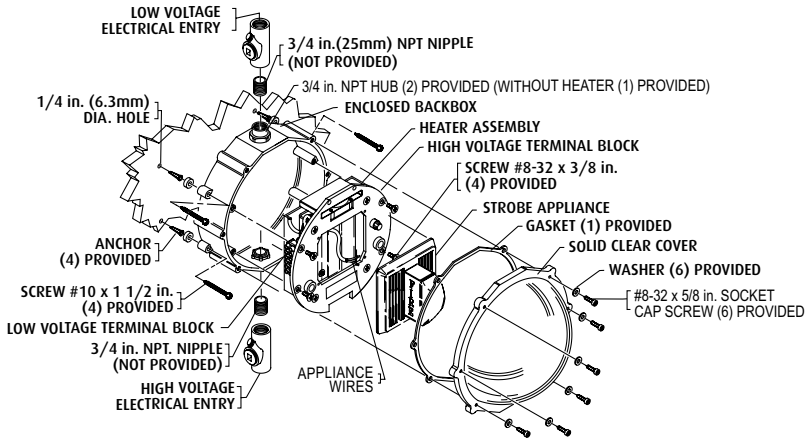

FIGURE 1
Mount Enclosure back box - Refer to Fig. 1
- 2. Mount back box in desired location (wall mount only) using the four #10 x 1-1/2" screws and anchors (provided). Drill a 1/4" diameter pilot hole for plastic anchors at spacing in Fig. 1.
10. Attach heater assembly to back box using (4) #8-32 x 3/8" flat head screws into heater assembly mounting bosses on back box (see Fig. 1). Make sure all service wiring is gathered away from the heater and be careful not to pinch wire under heater assembly. Fan must be mounted toward top of enclosure.